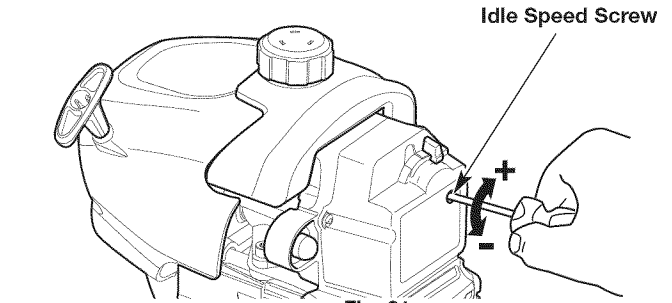

Fig. 21
2. Release the throttle control and let the engine idle. If the engine stops, use a small Phillips screwdriver to turn the idle speed screw clockwise, 1/8 of a turn at a time (as needed) until the engine idles smoothly (Fig. 21).